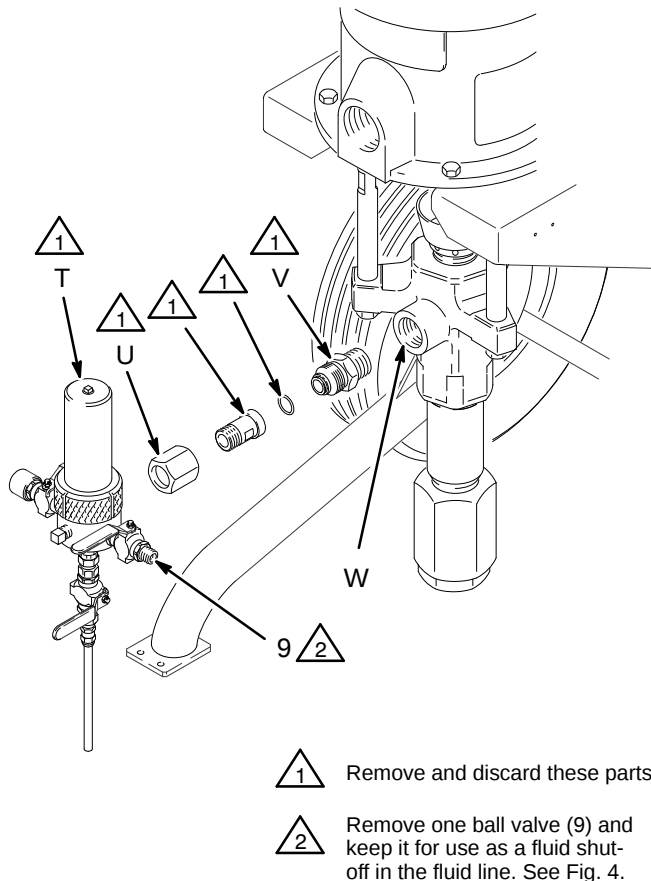

Fig. 3
2. See Fig. 3. Remove the fluid filter (T) and attached parts by unscrewing the nut (U) from the nipple (V) at the pump fluid outlet (W). Remove the nipple (V) from the fluid outlet. Unscrew one ball valve (9) from the fluid filter and keep it for use later. The other parts are not used in a zinc spray system.
Remove the ball valve (9) from the fluid filter (T, see Fig. 3) and reinstall here.